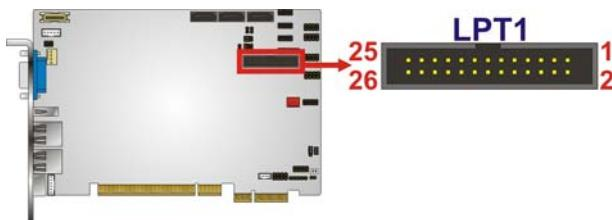

Figure 3-13: Parallel Port Connector Location
**CN Location:** See Figure 3-13